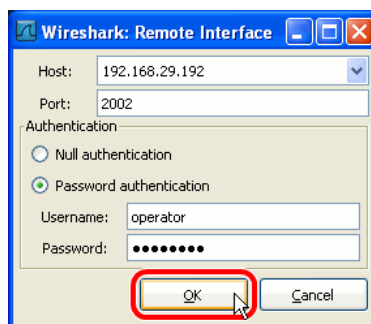

Figure 305: Wireshark Remote Interface Dialog.
4. Enter the correct settings for **Host** and **Port** (default 2002) and, if authentication is enabled, enter **Username** and **Password** in the corresponding fields as shown in Figure 305.